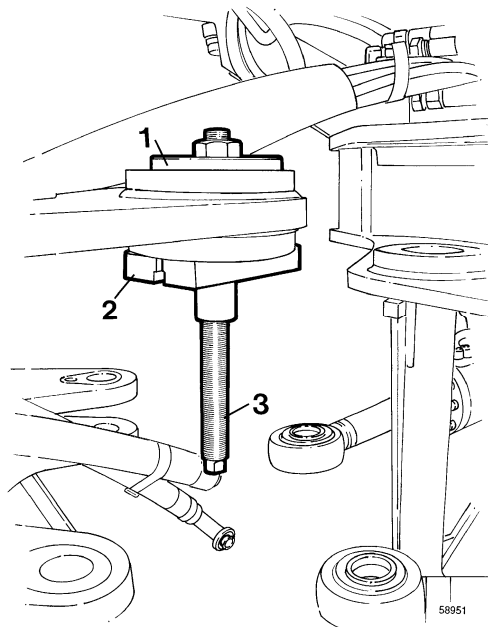

Figure 13
20. Press the upper and lower oil seals into position according to Figure 13.